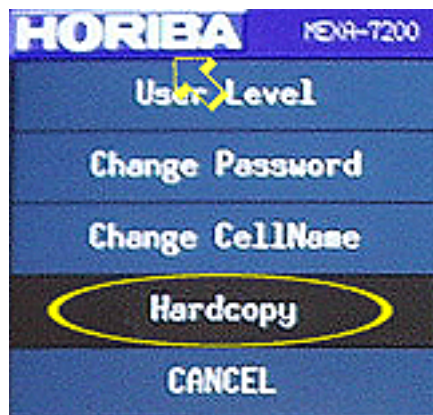

Figure 50
- 162 When the “Analyzer Linearization,” sub-panel appears, click on the Horiba logo button on the title bar. See the arrow in Figure 50.
Click on “Hardcopy.” See the circle in Figure 50.